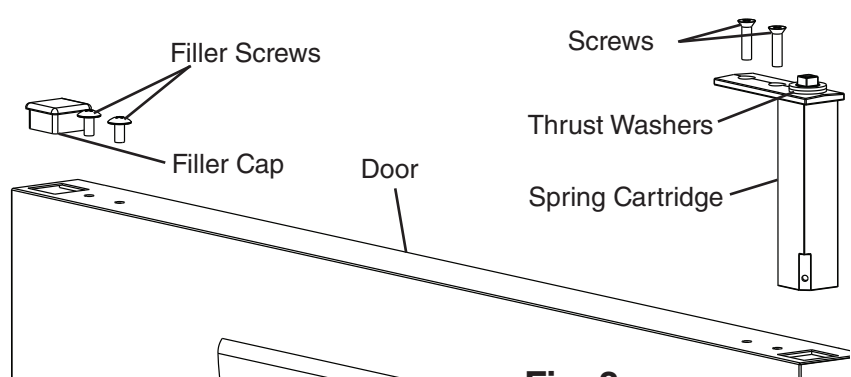
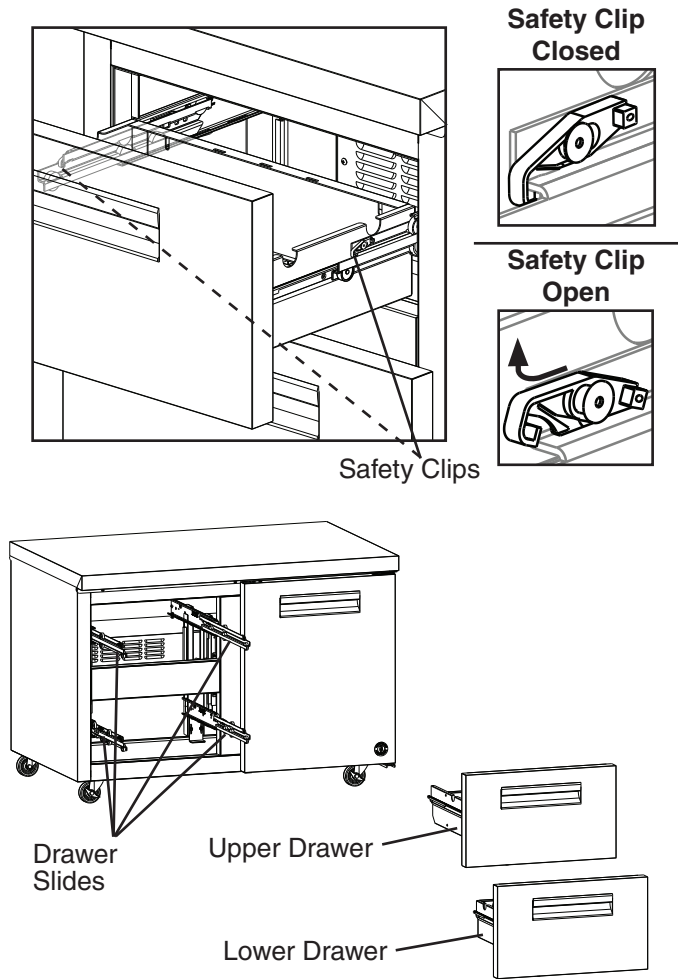

Fig. 8
Fig. 16
- 8) Remove the filler cap, filler screws, and spring cartridge. See Fig. 16. Leave the thrust washers in place on the spring cartridge. **NOTICE! Spring cartridge may be difficult to remove. Be careful not to damage the finish.** See Fig. 8.
- 2) Remove the drawers. Pull the drawer out to its fully extended position. Open the safety clips (one on each side) by sliding them forward, then rotating them up. See Fig. 16. Lift up on the handle slightly, then pull to disengage the drawer. Be sure to support the rear and front of the drawer while removing it. **WARNING! Be sure to close the safety clips when reinstalling the drawer.**